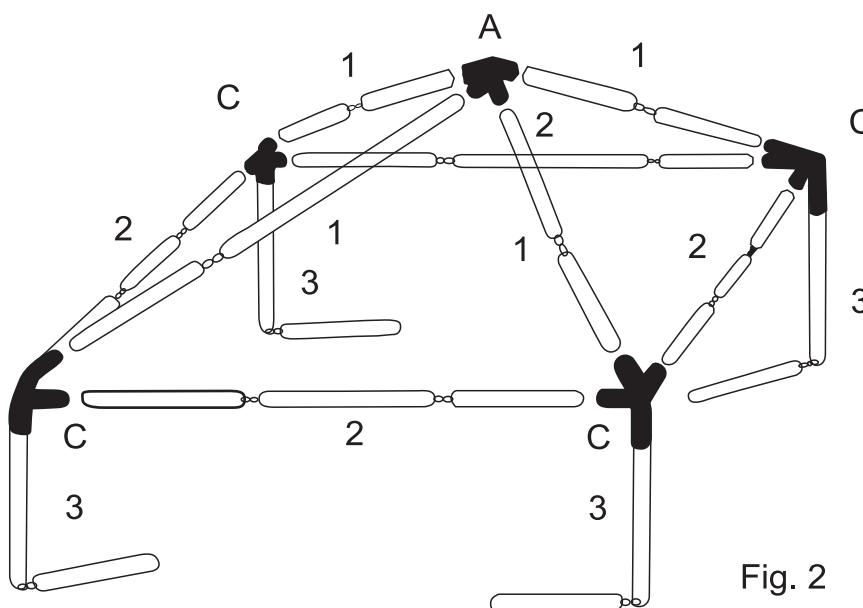

Fig. 2
CONNECT POLES NO.1 TO BE A WHOLE BAR, SLIDE ONE END OF TUBE NO. 1 INTO THE VERTEX CONNECTOR (A) LOCKING INTO PLACE. SLIDE THE OTHER END OF TUBE NO. 1 INTO THE CORNER CONNECTOR (C) UNTIL IT LOCKS INTO PLACE. CONNECT TUBE NO. 3 INTO THE CORNER CONNECTOR (C). BUT NOT CONNECT TUBE NO. 3 TO BE A WHOLE BAR AS SHOW IN FIG 2.